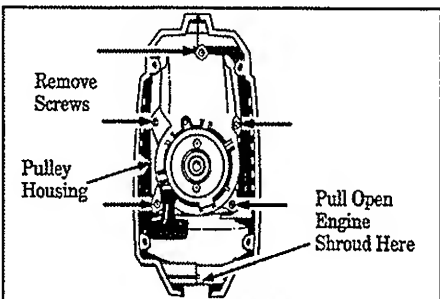

Figure 15
4. Remove the 5 screws from pulley housing. Figure 15. Then, gently pull open engine shroud and remove pulley housing and pulley from engine.